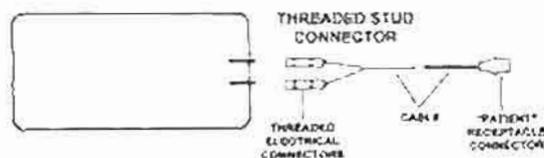

Figure 2-11. Patient return electrode (reusable).
(1) *Patient return electrode (reusable) (fig 2-11).*